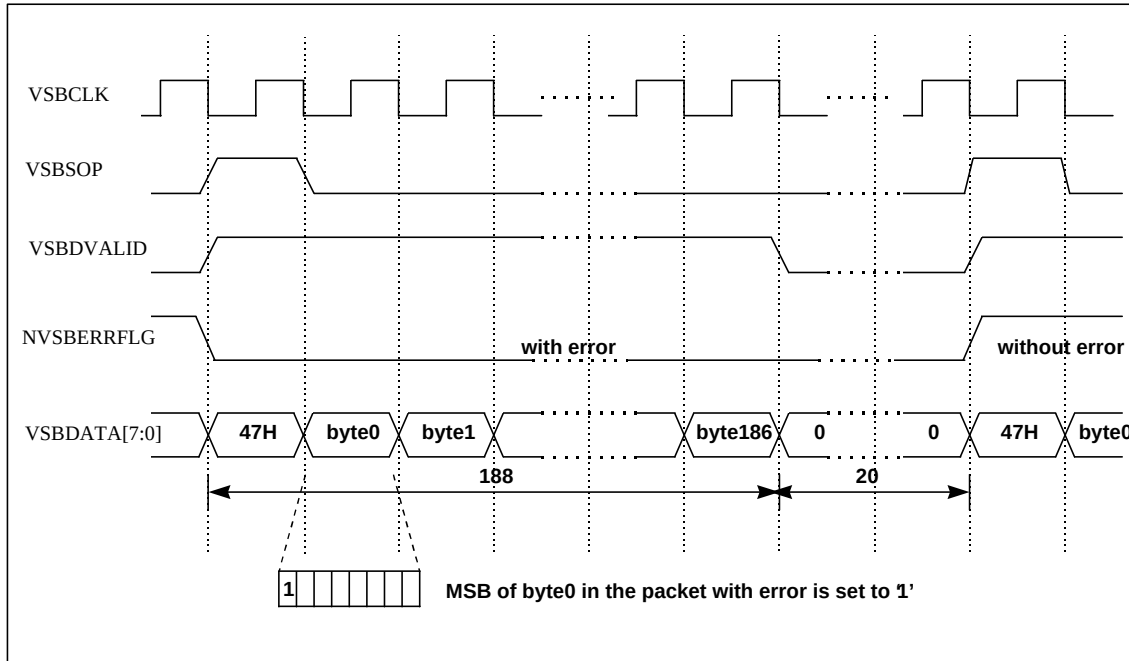

Figure 6.6.8 I/F to Transport Demultiplexer when Register64[7:0] is set to Default Value
- 5) the VSBCLK signal is not suppressed during VSBDVALID='0' interval. See Fig. 6.6.8.